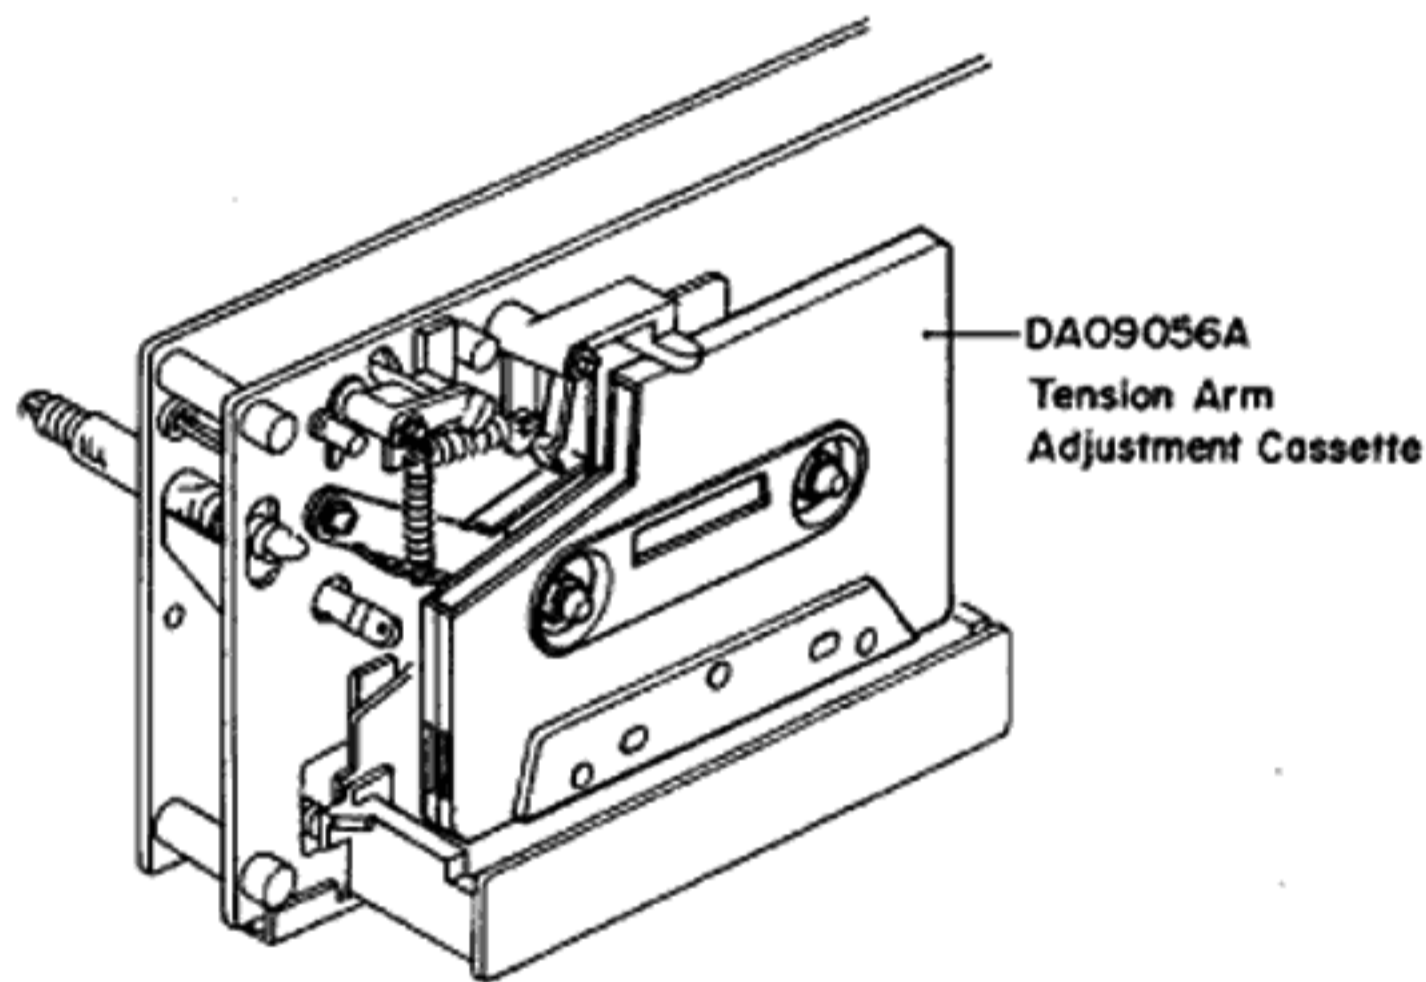
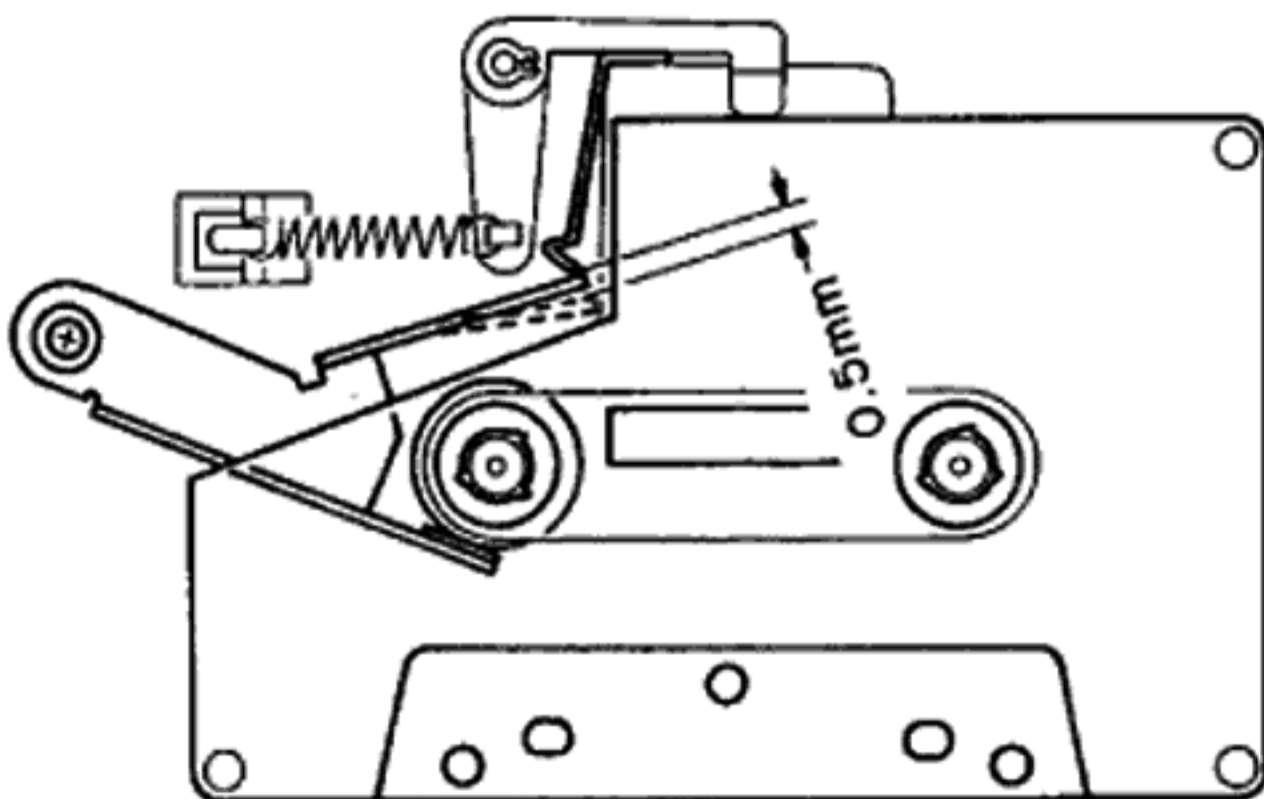

Fig. 4.13
Fig. 4.14
Refer to Figs. 4.13 – 4.16.
- (1) Load a Tension Arm Adjustment Cassette (DA09056A) in the ZX-7 referring to Fig. 4.13.
- (2) Set the ZX-7 in Play mode.
- (3) Bend the Back Tension Arm with pliers so that the gap between the Cassette Holding Spring assembled on the Head Base Ass'y and the Back Tension Arm becomes 0.5 mm as shown in Fig. 4.14. Do not bend the top of the Back Tension Arm.
- (4) Set the ZX-7 in Stop mode, and remove the Tension Arm Adjustment Cassette (DA09056A), then set the ZX-7 in Cue mode.